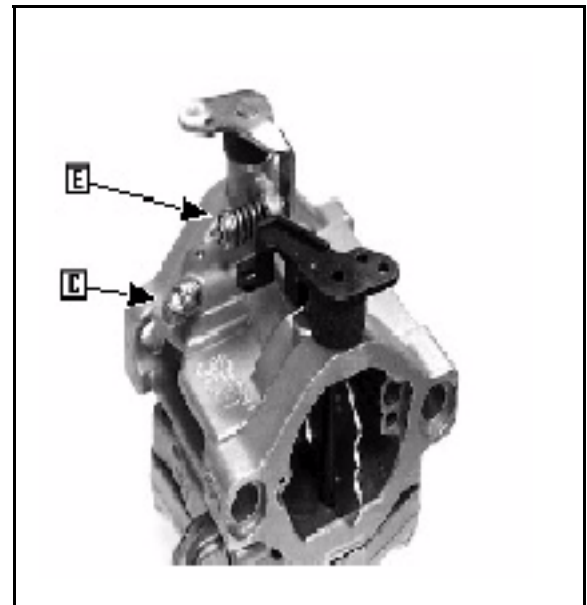

Fig. 137
10. Remove the idle mixture screw with spring (D) and the idle speed screw with spring ([E] Fig. 137).